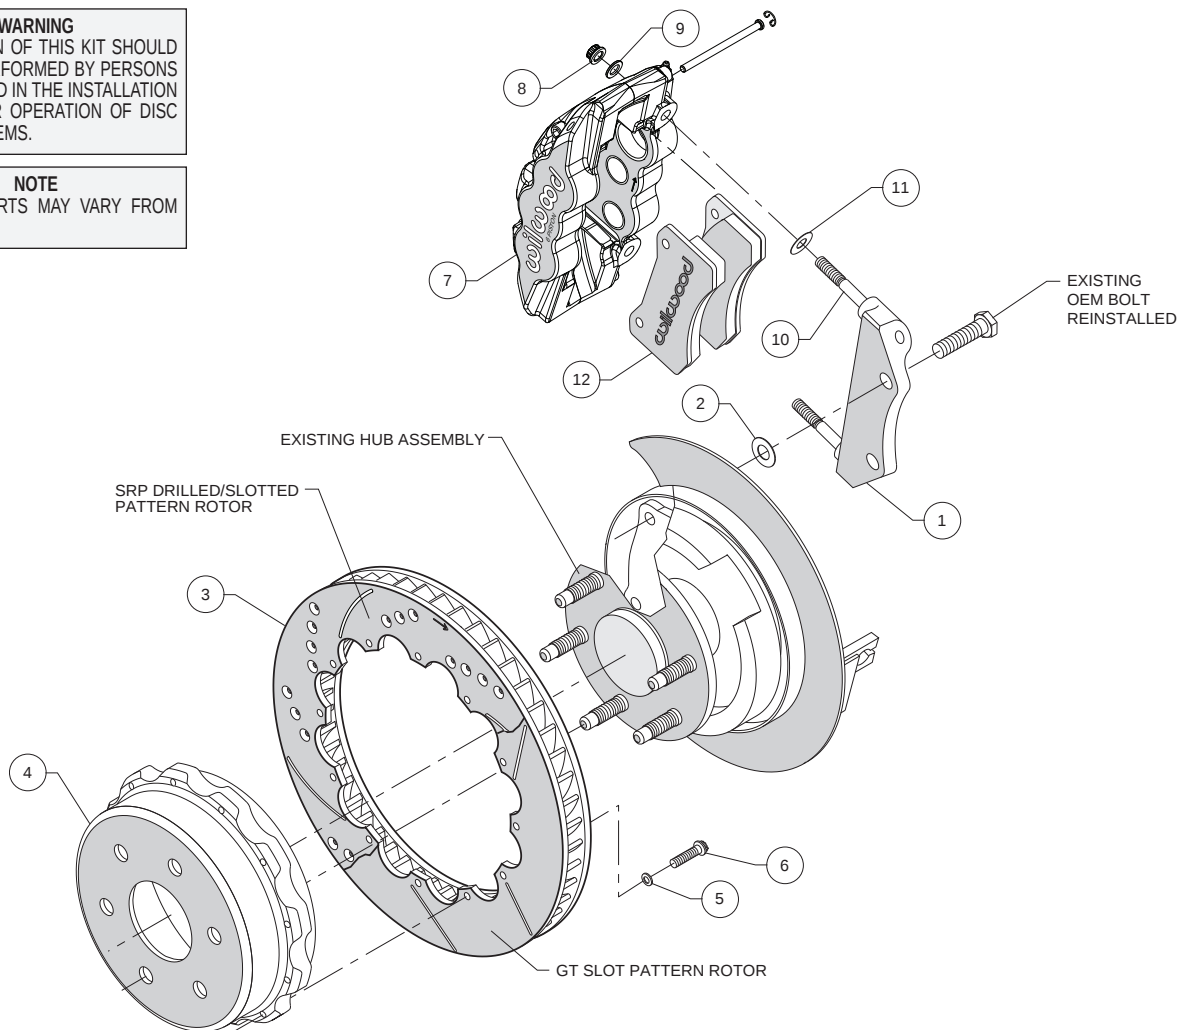

Figure 1. Typical Installation Configuration
Assembly Instructions (numbers in parenthesis refer to the parts list and Figure 1 on the preceding page):
- Install one shim (11) over each stud (10) on the radial mount bracket (1). Slide the caliper (7) in place over the studs and rotor and install the washer (9) and lock nut (8) to hold the caliper in place. The caliper bleed screws should be pointing up. Snug the lock nuts (8) and check that the rotor (3) is centered in the caliper (7). Add or subtract .029" shims (2) as necessary between the caliper mount bracket (1) and the caliper mount bosses on the upright assembly to center the caliper (7).
- Remove the two pad retaining pins from the caliper (7) by carefully popping out the pin retaining clips and sliding out the pins. Insert the brake pads (12) into the caliper from the bottom, Figure 1. With the friction material facing the rotor, secure the brake pads in place with the pad retaining pins and clips. Reinstall the caliper onto the caliper mounting bracket and temporarily tighten the lock nuts. Check that the top of the brake pad is flush with the outside diameter of the rotor. If not, adjust by adding or subtracting shims (11) between the caliper and the bracket.
- Adjust the parking brake shoes outward (using a drum shoe adjustment tool available at your local auto parts store) while spinning the hat (4) until a slight drag is felt against the hat/drum.
- Once all clearances have been checked, remove the wheel, caliper and rotor from the axle flange. Secure the caliper mounting bracket (1) to the upright using red *Loctite*® 271 on the bolt threads. Torque the bolts to manufacturer's specifications. Reinstall the rotor and again use several lug nuts to hold it in place. Lubricate caliper mounting studs and nuts with lightweight oil, reinstall the caliper, torque the caliper nuts (8) to 47 ft-lbs.